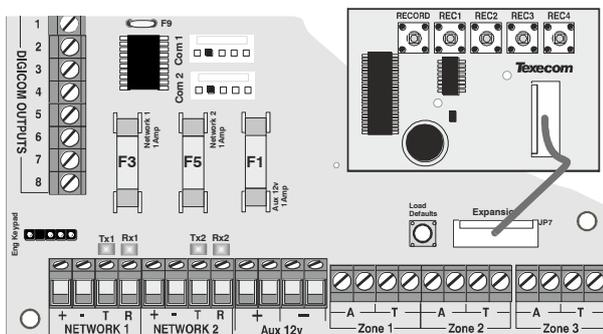

Figure 2. Premier Elite Speech Module Connected to Expansion Port on PCB
2. Plug the **Premier Elite Speech Module** (see Figure 2) onto the 7 way Expansion Port of the control panel.